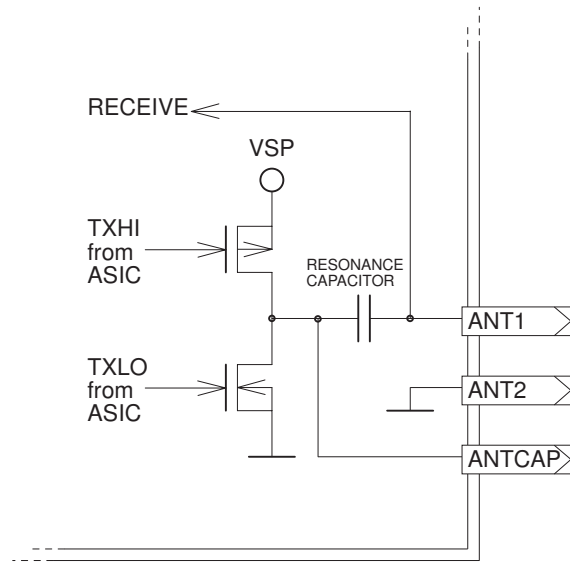

Figure 1-4. Antenna Circuit Block Diagram
- SYNC (1) Output for wired synchronization. This output is at GND level until the Micro-reader starts its read cycle, at which time it goes to VSL until the complete reading, programming or locking cycle is finished.
- RDEN- (2) Input for wired synchronization. Taking this pin to VSL acts as a hold-off for the Micro-reader's output stage preventing it from transmitting until the input returns to GND. The Micro-reader only samples this input at the start of its own reading, programming or locking cycle, this means that if the input goes to VSL after a cycle is started, the cycle is not interrupted. RDEN- is a high impedance input and must be tied to GND via a suitable resistor (27 k $\Omega$ ) when it is not being used.
- RESET- (4) Taking this pin to GND holds the Micro-reader in reset. If the reset pin is not used it can be left disconnected as it is internally pulled up. Minimum pulse duration to perform a reset is 1 ms. After a reset the processor takes between 28 ms and 132 ms (typically 72 ms) before it can receive new instructions via the serial communications interface.
- RXD (5) Input configured to receive serial data commands at 9600 Baud, 1 start bit, 8 data bits, no parity and 1 stop bit.
- TXD (6) Output configured to transmit serial data at 9600 Baud, 1 start bit, 8 data bits, no parity and 1 stop bit.
- ANT1 (16) Antenna pin for the connection of 47  $\mu$ H, low Q antennas.
- ANTCAP (17) It is possible to use antennas of lower inductance by connecting a suitable capacitor between ANT1 and ANTCAP. This additional capacitor (ceramic, 100 VDC) will be in parallel with the 30 nF resonance capacitor on board the Micro-reader (see Figure 1-4 and Appendix C).
- ANT2 (19) Antenna pin (GND) for the connection of 47  $\mu$ H, low Q antennas.
- GNDP (21) Pin 21 is ground for the output stage.
- VSP (22) Pin 22 is for connecting the positive supply voltage (5 V) for the output stage.
- VSL (24) Pin 24 is for connecting the positive supply voltage (5 V) for the logic part.
- CRDM (26) Supplying pin 26 with a logic high signal causes the Micro-reader to run in a continuous charge-only read mode (see Section 1.2.5 for more information).
- WLSC (27) Pin 27 enables or disables wireless synchronization. To enable the wireless synchronization, pin 27 must be taken to VSL. When wireless synchronization is enabled, the Micro-reader will try to synchronize its transmit signals with any other readers in range. To disable wireless synchronization pin 27 must be taken to GND. Pin 27 is a high impedance input and must be tied to either VSL or GND via a suitable resistor (27 k $\Omega$ ).
- OKT (29) This output is set to logic high for approx. 60 ms if a valid transponder was read. It can be connected to an LED externally to indicate the result of the read cycle.
- STAT(30) Pin 30 is set to logic low when the RF-transmitter is activated. Supplying an external LED with this signal makes the status of the Micro-reader visible.